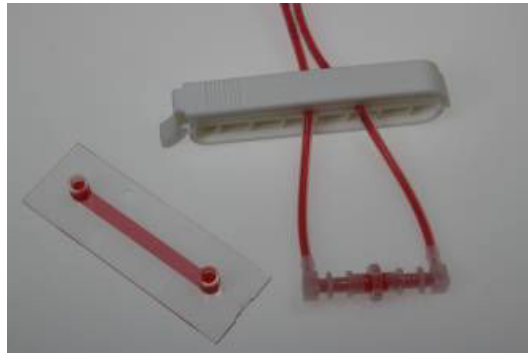

Figure 30: Clamp the tubing before opening the Female Luer Coupler of the Perfusion Set.
1. Once the tubing is free of bubbles, use the hose clip to clamp both tubing arms of the Perfusion Set tubes directly beneath the valve (Figure 30). This action allows the two ends of the Perfusion Set to be disconnected without emptying the medium.